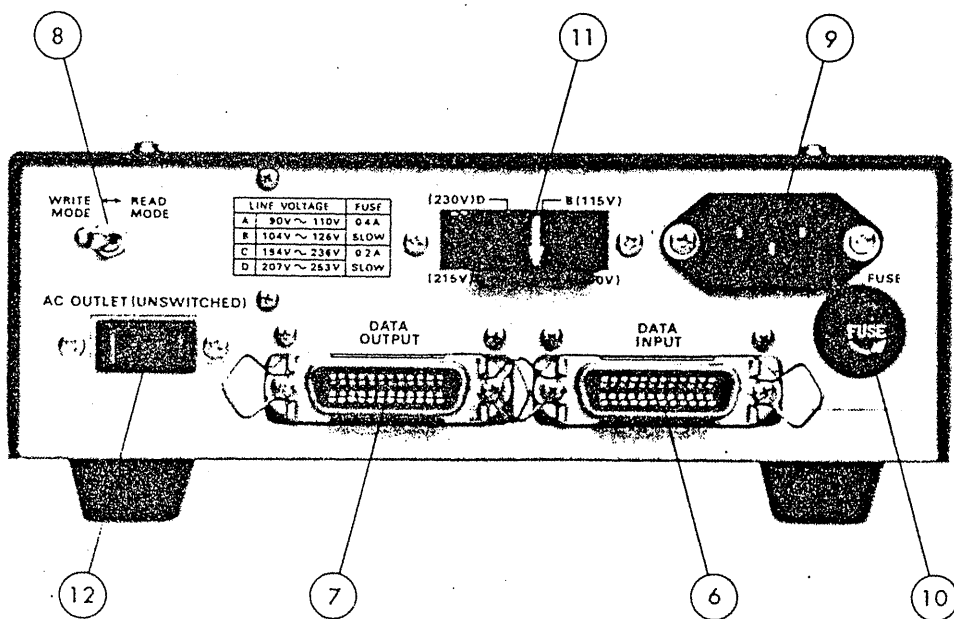

Figure 4-2
4-2. Description of Rear Panel Items (See Figure 4-2.)
- (1) Connect the devices as shown in Figure 4-2. Set the READ/WRITE switch in the READ state and then turn on the power of MU01-COS.
- (2) Set the START and END digital switches of Remote Controller RC01-COS and Memory Unit MU01-COS at the required step numbers.
- (3) By operating the Step Controller connected to the Remote Controller and Memory Unit, set their step numbers at the END step number.
- (4) Set the Remote Controller in the READ state. Set the READ/WRITE selector switch of Memory Unit in the WRITE state.
- (5) Press the UP button of the Remote Controller. The step number indication of Memory Unit will change to that which has been set by the START switches and data will be written in the START step.
- (6) Each time as you press the UP button of the Remote Controller, data of each step will be written in the Memory Unit.